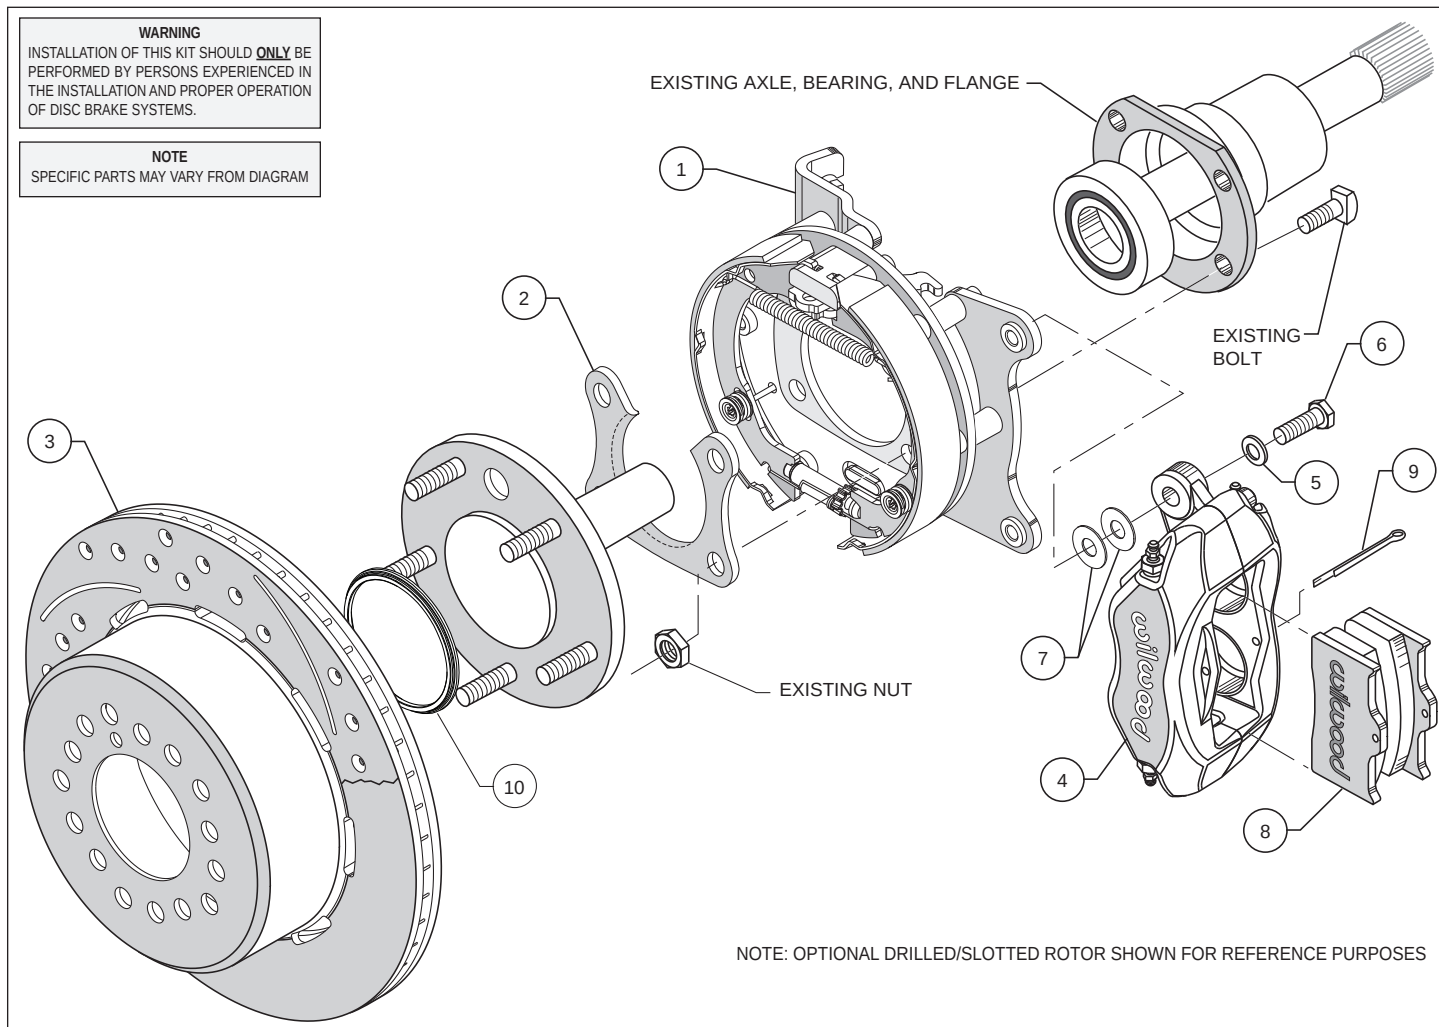
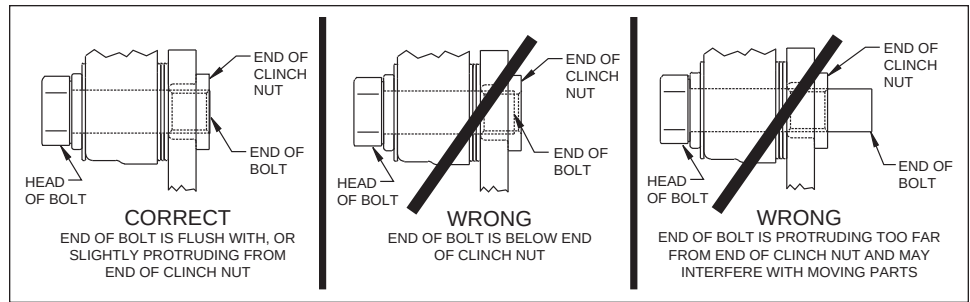

Figure 1. Typical Installation Configuration
Figure 5. Clinch Nut Engagement Diagram
Assembly Instructions (numbers in parenthesis refer to the parts list, and Figure 1 on the preceding pages): **CAUTION:** All mounting bolts must fully engage clinch nuts. Be sure to check that all bolts are either flush or protruding through flanged side of clinch nut after shimming, Figure 5.
- Orient the bracket assembly (1) as shown in Figure 1 and Photo 1 and slide it onto the axle. Insert the axle and bracket into the axle housing. Ensure that the bracket assembly backing plate fits flush against the axle housing flange.
- Install the bearing retainer (2) with the opening pointing upward and the lip facing inward (toward the bearing), as shown in Figures 1 and 4, and Photo 2. Secure retainer and bracket assembly to the axle housing flange using the Original Equipment Manufacturer (OEM) bolts and nuts, Figure 1. Apply red *Loctite*® 271 to the OEM bolt threads and torque to OEM specifications.
•Slide the rotor registration adapter (10) onto the axle register on the axle flange with the smaller O.D. facing toward the rotor/hat (3), Photo 3. Align the correct hole pattern in the rotor/hat with the stud pattern on the axle flange and slide into place, Figure 1 and Photo 4. **NOTE:** The rotor/hat must fit flush against the axle flange or excessive rotor run out may result. Install three lug nuts (finger tight) to keep the rotor/hat assembly in place while continuing with the installation. **NOTE:** Some OEM and after market axles come with stud sizes larger than 0.50" diameter. Verify stud size and have a qualified machine shop drill the bolt circle of the hat/rotor to the correct stud size, if necessary.
•**NOTE:** Please reference the caution statement at the beginning of the assembly instructions. Mount the caliper (4) onto the caliper mounting bracket (1) using bolts (6) and washers (5), as shown in Figure 1. Initially place two .035" thick shims (7) on each bolt between the caliper and the bracket, Photo 5. Temporarily tighten the mounting bolts and view the rotor (3) through the top opening of the caliper. The rotor should be centered in the caliper, Photo 6. If not, adjust by adding or subtracting shims between the bracket and the caliper. Always use the same amount of shims on each of the two mounting bolts. **NOTE:** The end of each bolt must be flush with or slightly protruding from the head of the clinch nut, as shown in Figure 5. If necessary place spare shims between washer (5) and caliper mounting ear to achieve the proper clinch nut engagement. Once the caliper alignment and clinch nut engagement are correct, remove the bolts one at a time, apply red Loctite® 271 to bolt threads, and torque to 40 ft-lb.